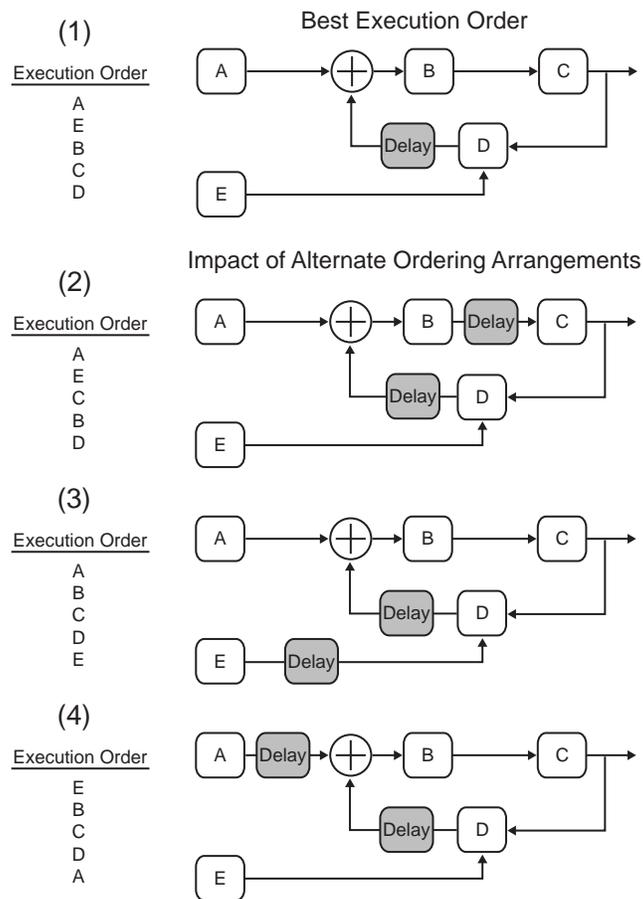

Figure 2.2 The impact of execution order.
The execution order of the various blocks in a system has an impact on the effective delay seen between the blocks. This point is illustrated in Figure 2.2, which shows the impact of choosing different order arrangements. In case (1), the chosen order arrangement leads to zero delay between all blocks except between the output of D and the other blocks. The reason for this delay is that D is the last block in the simulation loop, and its value does not impact the other blocks until the next simulation time step. Note that the delay value corresponds to one time step of the simulator, and has negligible impact on most analog feedback systems since the simulator sample rate is typically much higher than the bandwidth of the feedback system. For digital circuit networks, much care must be taken to insure that simulation induced delays do not compromise the true behavior of the system. Cases (2) through (4) display alternate ordering arrangements, and illustrate the corresponding delays between blocks that they induce.